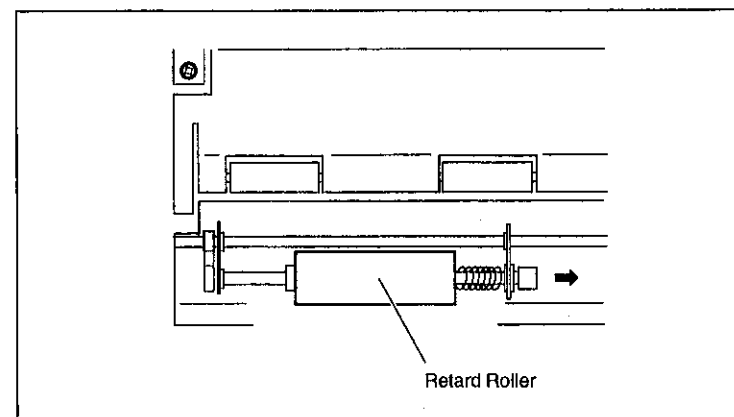

Fig. 8-37
- 3) Grip the Retard Roller and slide, as shown in Fig. 8-37.